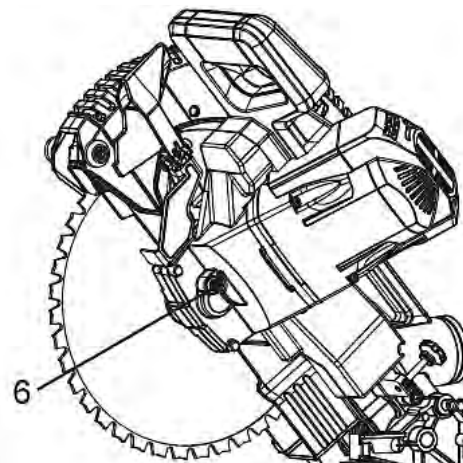

Fig. 47: Removing the saw blade
Step 5: Turn the cover plate (4) backwards to expose the mandrel screw (5).
Step 6: Place the hexagonal end of the saw blade wrench over the mandrel bolt (5).
Step 7: Locate the locking knob (item 6, fig. 47) under the switch handle.
Installing the saw blade (Fig. 47, 48)
Step 6: Place the saw-blade wrench on the shaft bolt (5).
Step 7: Press and hold the locking button (6) while turning the saw blade wrench counterclockwise. Continue to press while the shaft screw is tightened (Fig. 47).
Step 11: Make sure that the locking knob (6) is released to allow the saw blade to rotate freely (Fig. 47).